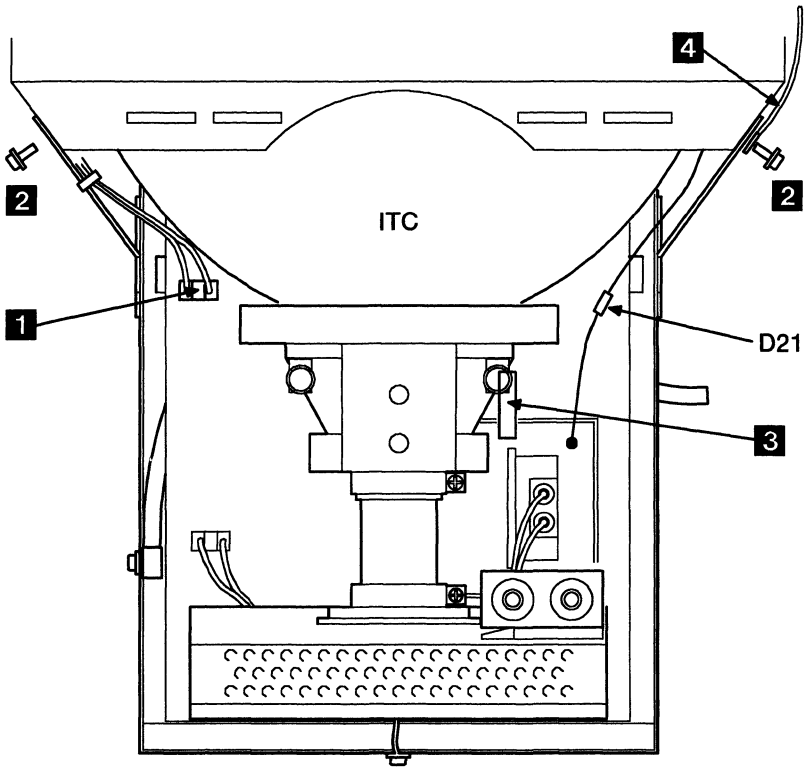

Figure 10. Removing the Card Tray
9. Refer to Figure 10 on page 21.